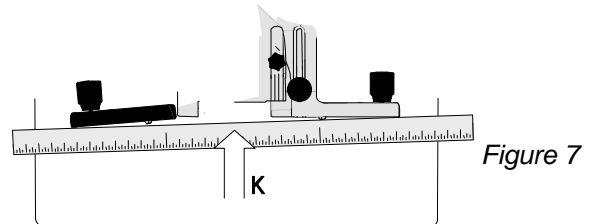
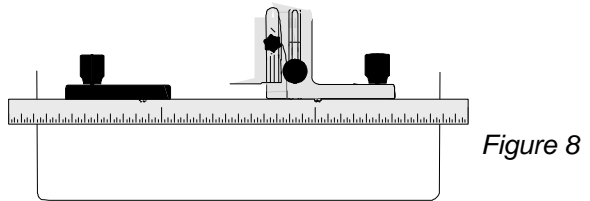
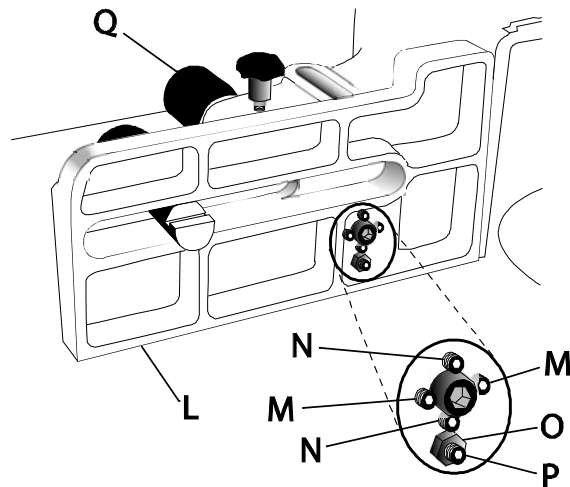

Figure 7
Figure 8
Figure 9
6. Remove both fences (J_1 , J_2) and place the straightedge against the infeed and outfeed fence castings (Figure 7).
7. Maintain steady pressure of the straightedge against the fence castings (K, Fig. 7). At the same time, attempt to bring both fences into alignment as shown in Figure 8. This is accomplished by alternately making incremental adjustments to two setscrews (M, Fig. 9) on the front face of the casting (L, Fig. 9) with a 3mm hex wrench, followed by repositioning the casting with the ram adjust dial (Q, Fig. 9) as required.
Important: It is recommended that the adjustment setscrews (M, Fig. 9) be rotated in 1/16th increments or less at a time.
8. Place a square against the *casting* (L, Fig. 9) and table.
9. If adjustment is required, adjust *setscrews* (N, Fig. 9).
Alignment is complete when both fence castings are coplanar (in-line) as shown in Figure 8 and the outfeed fence is perpendicular to the table.
5. Using a 10mm wrench, loosen the *lock nut* (O, Fig. 9) that secures the *zero stop set-screw* (P, Fig. 9) on the *casting* (L, Fig. 9).
6. Loosen or tighten the *setscrew* (P, Fig. 9), as required, to bring fence castings into alignment as shown in M.
7. Tighten *lock nut* (O, Fig. 9).